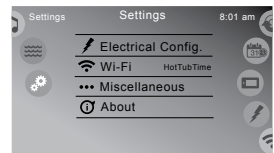

Figure 12.6d
3. Once connected, the display will change to Figure 12.6d to show the connection was successful.